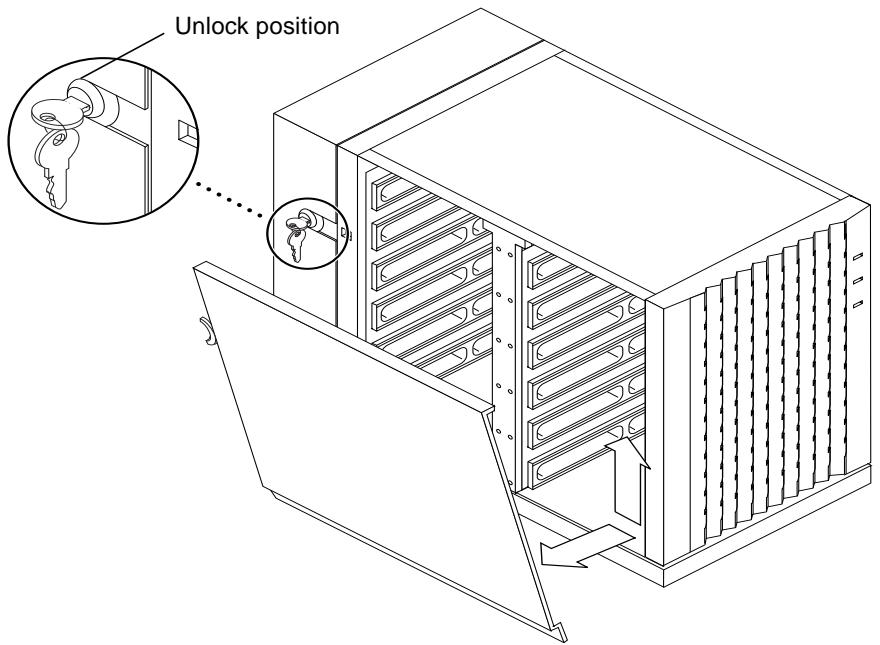

FIGURE 2-2 Removing the Left Side Cover
2. **Unlock and remove the left side cover (FIGURE 2-2).**